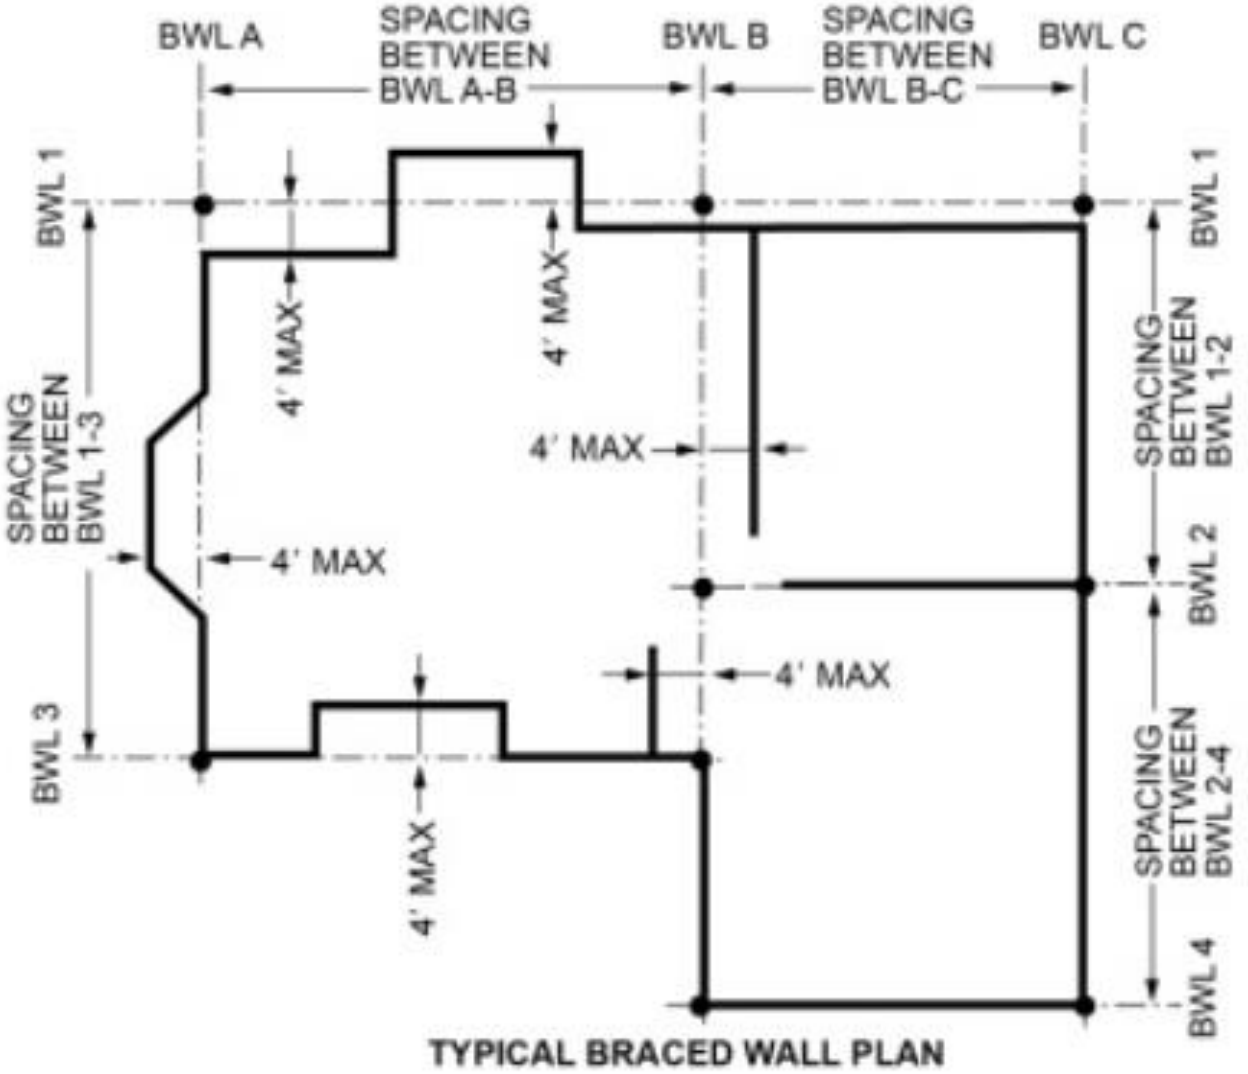

Figure R602.10.1.1
- R602.10.1.2: A braced wall panel shall not be offset more than 4 feet from its designated braced wall line as demonstrated in Figure R602.10.1.1
- length of required bracing per table R602.10.3(3) is adjusted in accordance with Table R602.10.3(4)